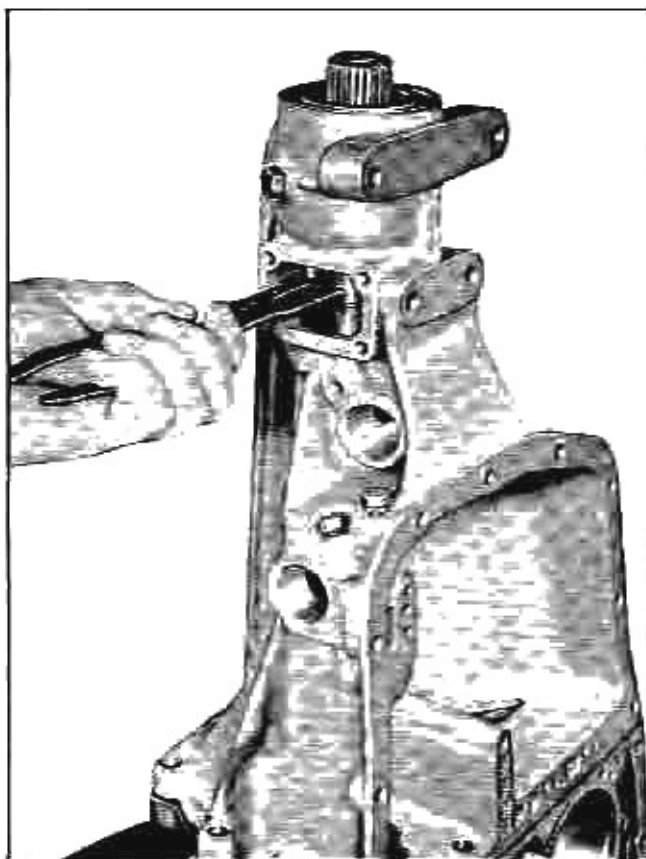

Fig. 49 Unseating Output Shaft Snap Ring
6. Reaching through the rear bearing retainer access hole unseat the rear output shaft snap ring using J-8872 and move upward a short distance (Fig. 49).